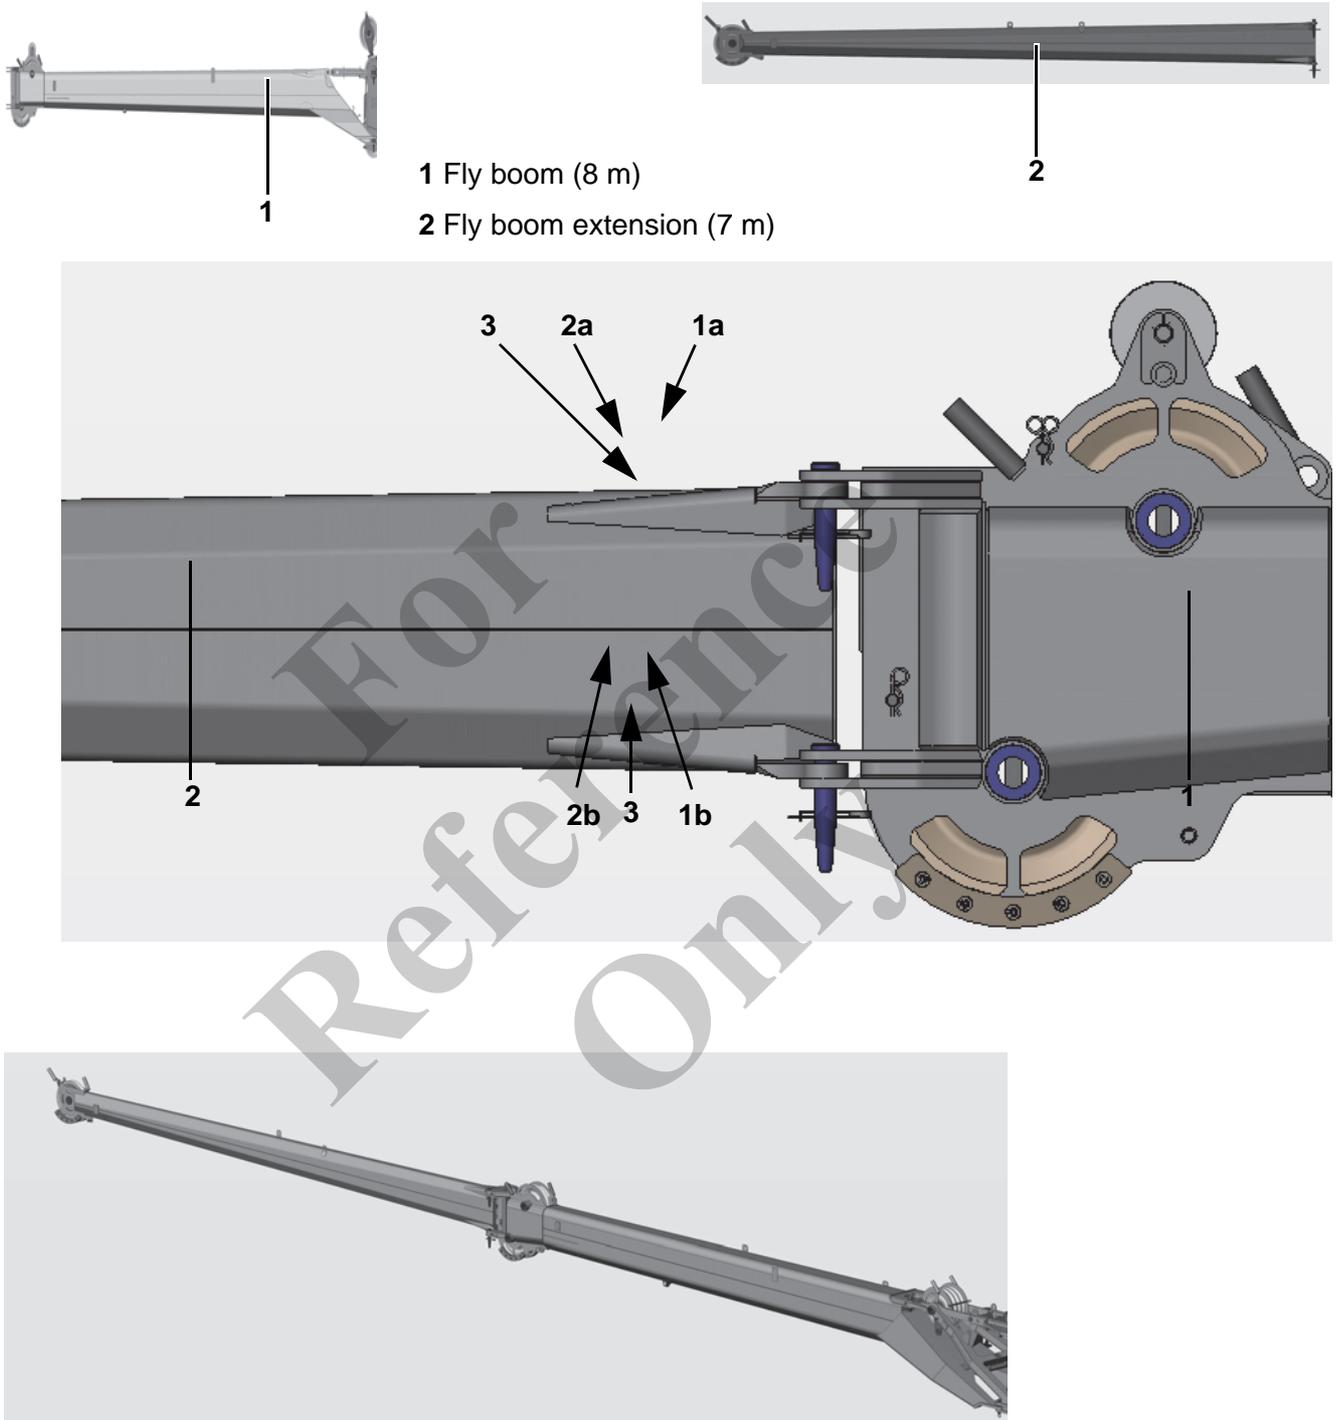

Fig. 230 Connection between fly boom extension and fly boom
3	Completely retract the telescopic boom with the fly boom (1) in Fig. 230 attached and lower it to a boom angle of 0°.
6	Using suitable load suspension equipment (minimum load-bearing capacity 2000 kg), hook the fly boom extension (2) in Fig. 230 onto an auxiliary crane and move it near the fly boom (1) in Fig. 230.
7	Lift/lower the fly boom extension using the auxiliary crane until the bores of the fork elements (1a, 1b) in Fig. 230 on the fly boom head and the bores of the straps (2a, 2b) in Fig. 230 on the fly boom extension align and the bolts can be inserted.
8	Insert the bolts (3) in Fig. 230 on the right and left, top and bottom, and secure them with retaining springs.